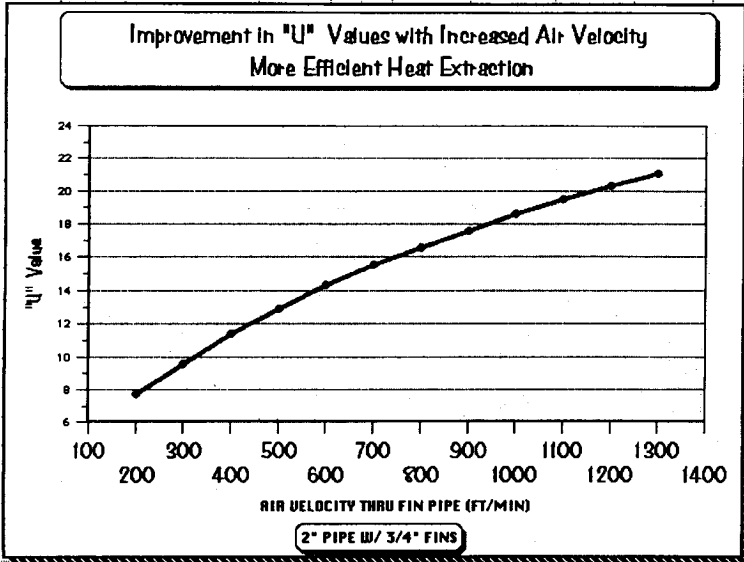

FIGURE 1. Improvement in "U" values with increased air velocity.
b). HV air improves heat transfer ("U" factor -- see FIGURE 1) from fin-tube to air stream and from air stream to lumber -- more efficient use of available steam/heat.